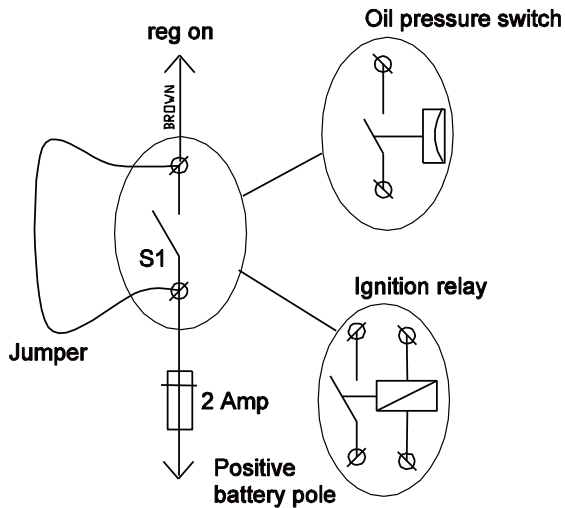

Figure 17: Jumper across switch S1
- 2 Energize the [reg on] terminal by either turning on the ignition switch (DO NOT START THE ENGINE) or by putting a jumper across switch S1 (see Figure 17). Check whether the 3 yellow LEDs start to blink. After approximately 10 seconds, the yellow bulk led will illuminate.